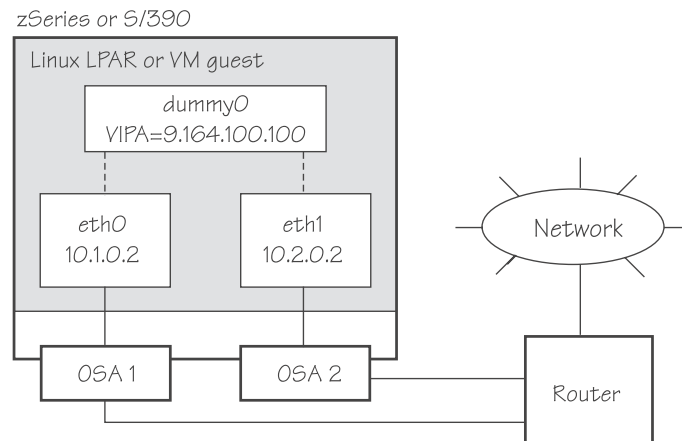

Figure 24. Example of using Virtual IP Address (VIPA)
- Static routing (shown in the example of Figure 24 on page 112).
Figure 24 shows the network adapter configuration used in the example.